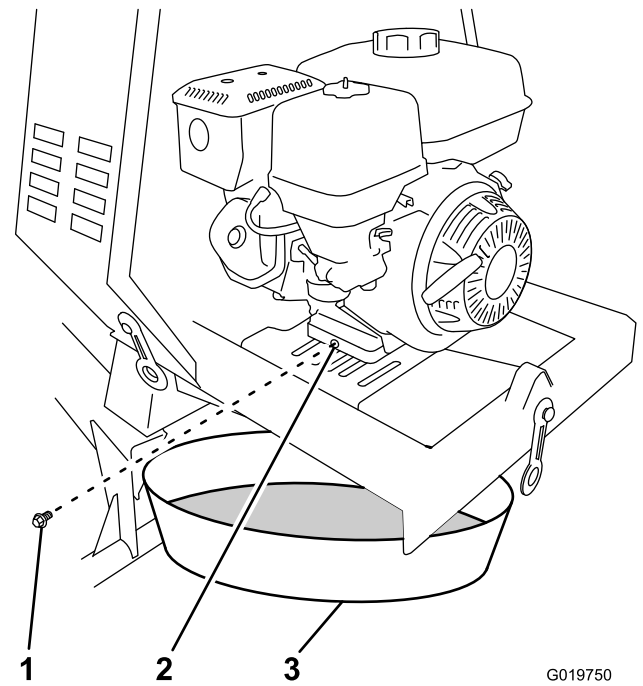

Figure 46
3. Place a drain pan under the oil drain hole of the engine (Figure 46).
4. Remove the drain plug and catch the oil in the oil drain pan (Figure 46).
5. When the oil has drained completely, install the drain plug with a new washer (Figure 46).